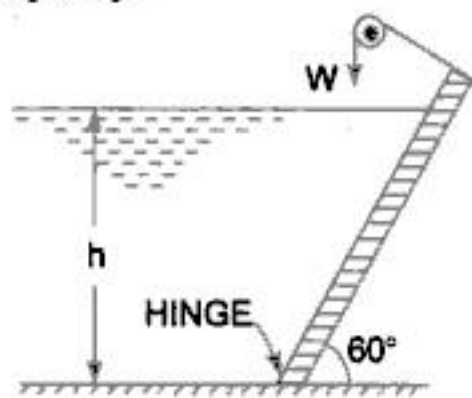

Fig. 3.54
14. A rectangular gate  $6\text{ m} \times 2\text{ m}$  is hinged at its base and inclined at  $60^\circ$  to the horizontal as shown in Fig. 3.54. To keep the gate in a stable position, a counter weight of 29430 N is attached at the upper end of the gate. Find the depth of water at which the gate begins to fall. Neglect the weight of the gate and also friction at the hinge and pulley. [Ans. 3.43 m]